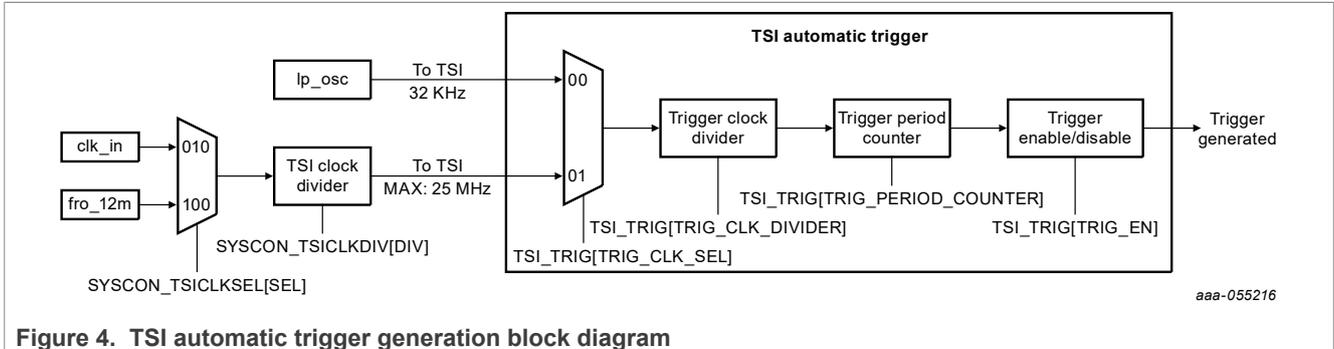

Figure 4. TSI automatic trigger generation block diagram
- Automatic trigger function. There are three trigger sources of TSI, including the software trigger by writing the `TSI0_GENCS[SWTS]` bit, the hardware trigger through INPUTMUX, and the automatic trigger by `TSI0_AUTO_TRIG[TRIG_EN]`. Figure 4 shows the automatically trigger-generated progress.